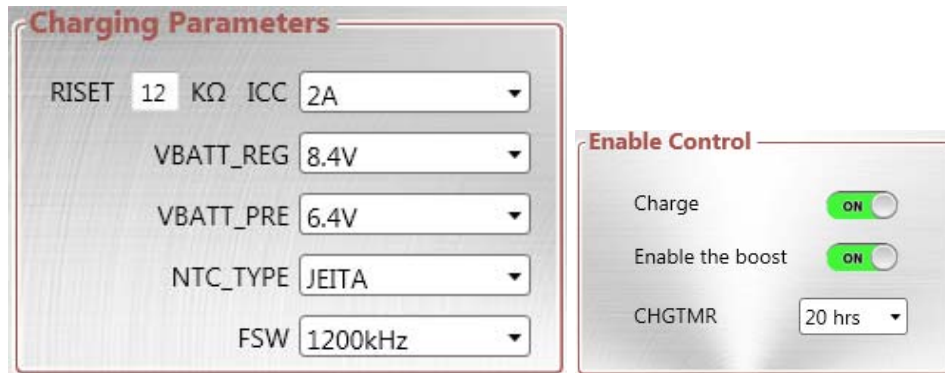

Figure 6: Charging Parameters
3. Configure charging parameters such as the charge current, battery-full voltage, constant charge timer, and NTC type (see Figure 6).